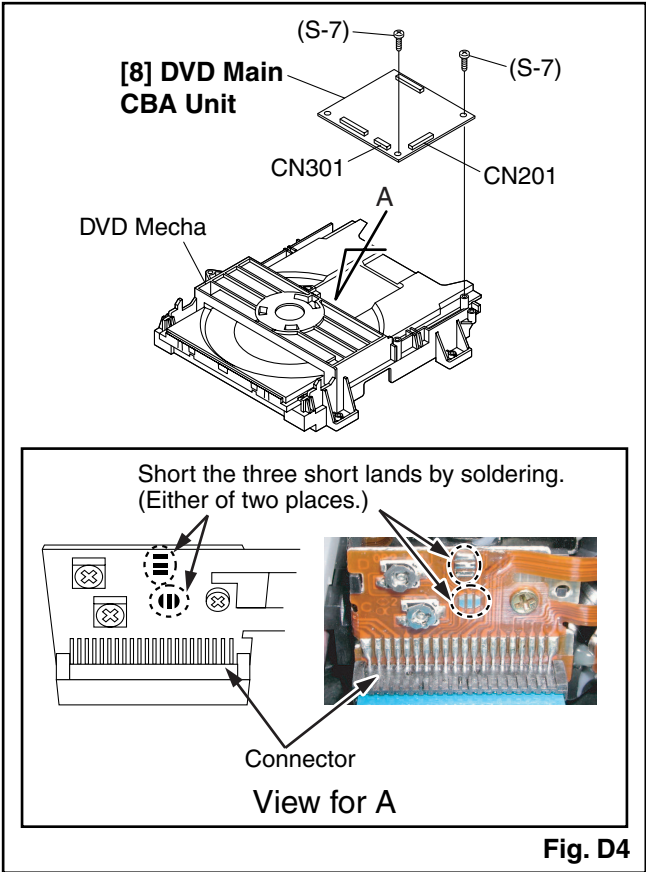

Fig. D4
- 2-1. Disconnect Connector (CN301). Remove a Screw (S-7) and lift the DVD Main CBA Unit. (Fig. D4)
- 2-2. Short the three short lands of FPC cable with solder before removing the FFC cable (CN201) from it. If you disconnect the FFC cable (CN201), the laser diode of pickup will be destroyed. (Fig. D4)
CAUTION 3: When reassembling, confirm the FFC cable (CN201) is connected completely. Then remove the solder from the three short lands of FPC cable. (Fig. D4)